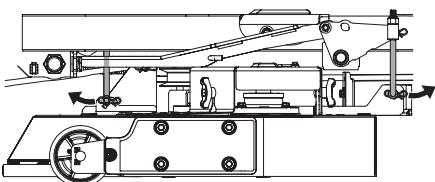

Figure 46
8. Remove the bow-tie pin from the bottom clevis end of each deck height adjust rod. There is one at the front and one at the rear on each side of the deck (Figure 46) (left side shown).